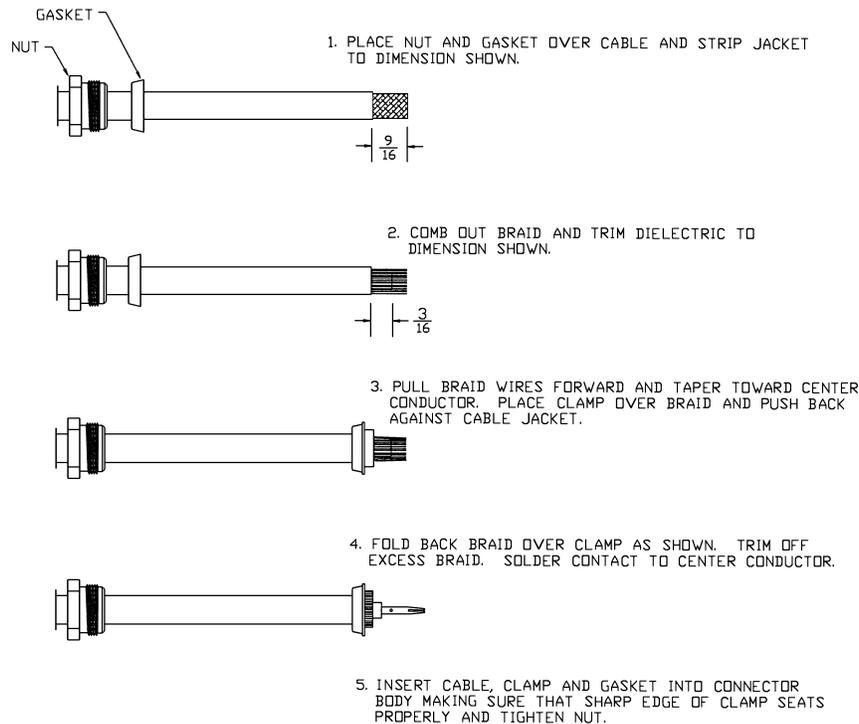

Figure 2. Coaxial Cable Installation
| FIGURE 2. COAXIAL CABLE INSTALLATION | 5 |
2. Trim the coaxial cable to the desired length and install the TNC connector per the cabling instructions on Figure 2. If the connector is provided by the installer, follow the connector manufacturer’s instructions for cable preparation.